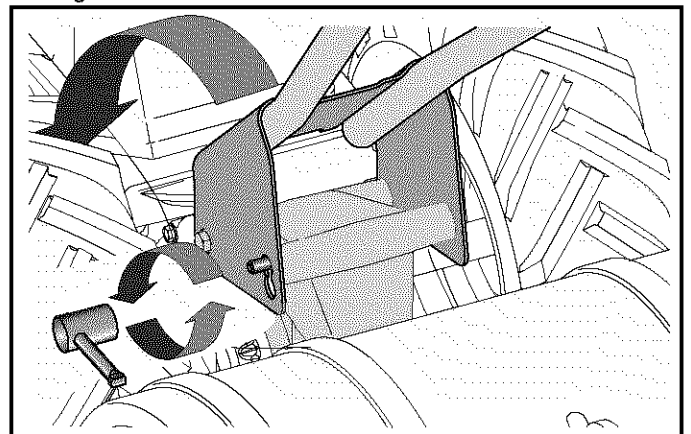

Figure 4
- Unthread the handle crank and remove the carriage bolt which secures handle mount bracket to the tiller frame. See Figure 4.